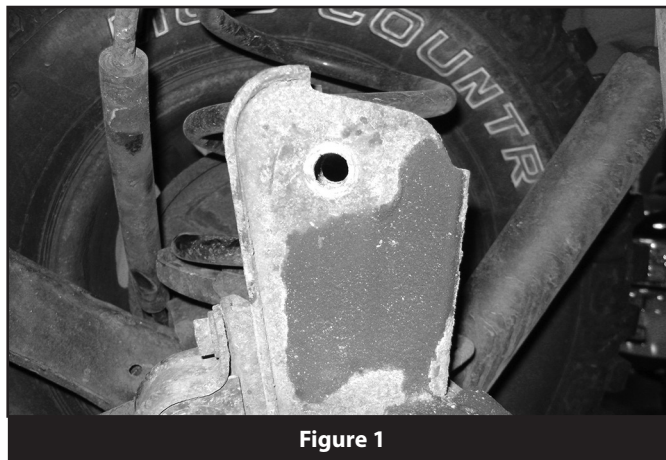

Figure 1
8. At the axle the square holes will also need to be enlarged. Using a 31/64" drill or rotary grinder enlarge the square holes to fit the larger hardware (Figure 1).